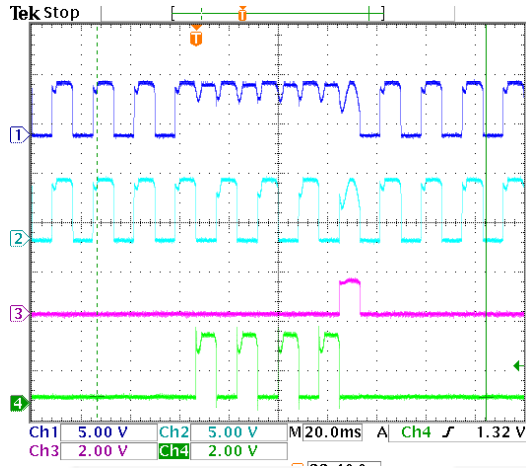
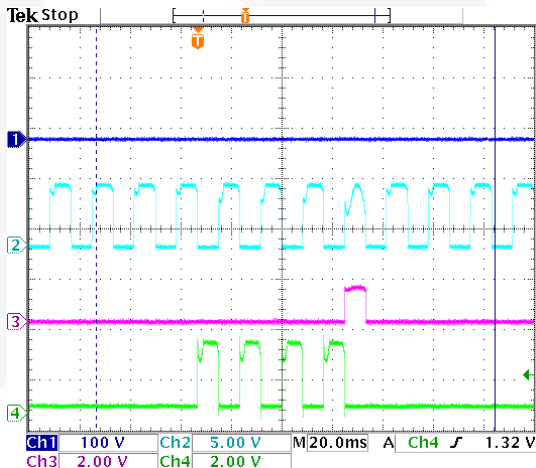

Figure 7. SCR Test Ch1: SCR Test (Pin 1), Ch 2: Phase (Pin 4), Ch 3: EOL Alarm (Pin 5), Ch 4: Fault Test (Pin 6)⁽⁸⁾
Figure 10. Solenoid Test Ch1: SCR Anode (100 V/div), Ch2: Phase (Pin 4), Ch3: EOL Alarm (Pin 5), Ch4: Fault Test (Pin 6)⁽¹¹⁾
If any one of the above self tests fail, the FAN41501 repeats the self testing until a 66 ms timer expires. If this occurs, the EOL latch is enabled and the FAN41501 EOL Alarm pin 5 goes HIGH. This signal can be connected to a separate SCR or to the gate of Q1 with a series diode. When the EOL Alarm goes HIGH, the SCR is enabled and energizes the solenoid, which opens the load contacts. When the EOL Alarm pin goes HIGH, if it is connected to the gate of an SCR, V_{DD} drops below 2.5 V. This generates a Power-On-Reset that resets the logic and repeats a self-test cycle in one second. Figure 7 to Figure 10 show a FAN41501 self-test cycle for a SCR, GFI controller, sense coil, and solenoid failure.
The self test cycle lasts for 66 ms to allow four self-test cycle attempts. After the timer has expired, the EOL alarm is enabled. Figure 7 to Figure 10 show an example of the EOL alarm signal connected to the gate of an SCR. When the EOL alarm signal is enabled, the V_{DD} voltage is discharged, which causes a POR. The EOL alarm is disabled and a self-test cycle is repeated in one second.
9. This test is the same as Figure 7, except for the time scale. After a self-test failure, an EOL alarm pulse is generated every one second.